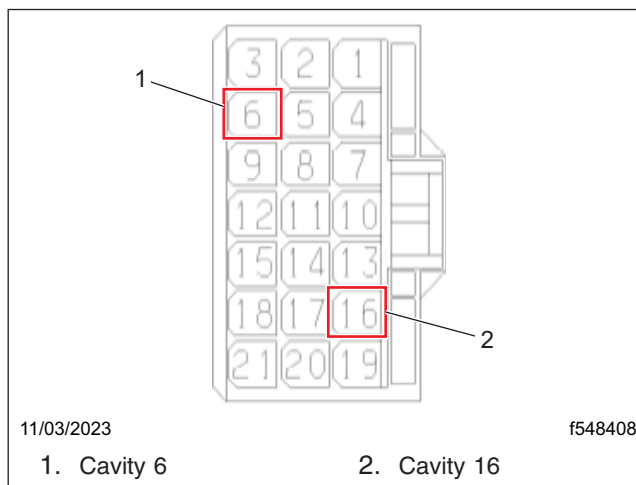

Fig. 45, XMC2 X3 Connector Pin Locations
16. Inspect the X3 connector. Check the cavity location of existing brown wire (circuit 102C) in the X3 connector. See Fig. 45.